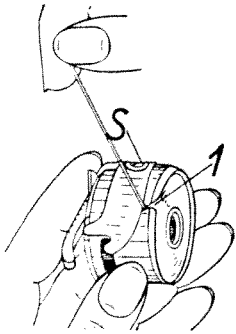
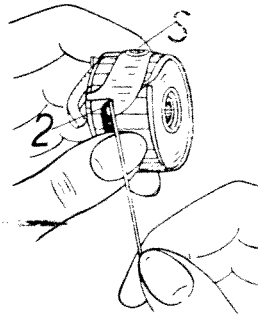

Fig. 6
Fig. 7
6. Hold the bobbin in the bobbin case, pull the thread into the slot (Fig. 6), and draw it under the tension spring (Fig. 7), leaving a loose end about 1 inch long outside the bobbin case.